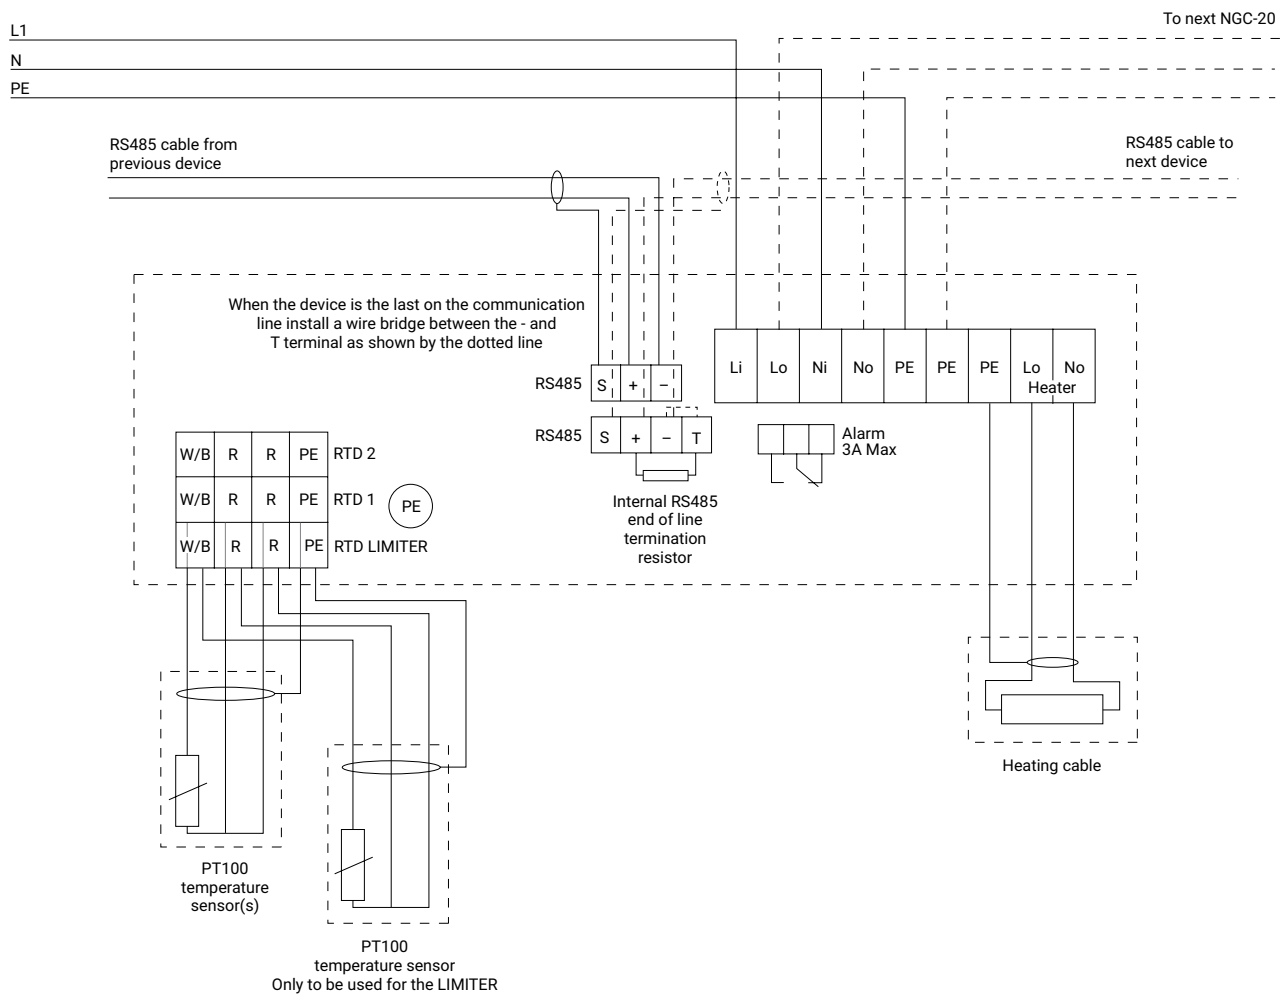

Figure 2: connection diagram NGC-20-C(L)-E
- The correct position is on top of the pipe. (Figure 2)
- The lead wire need to leave the insulation so that no moisture can enter the cladding-insulation system. (Figure 2)